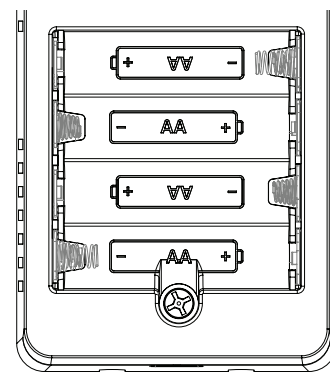

fig. 3
3. Install 4 AA batteries with the polarity as indicated on the ACC-TSENWIFIPRO housing. (see fig. 3)